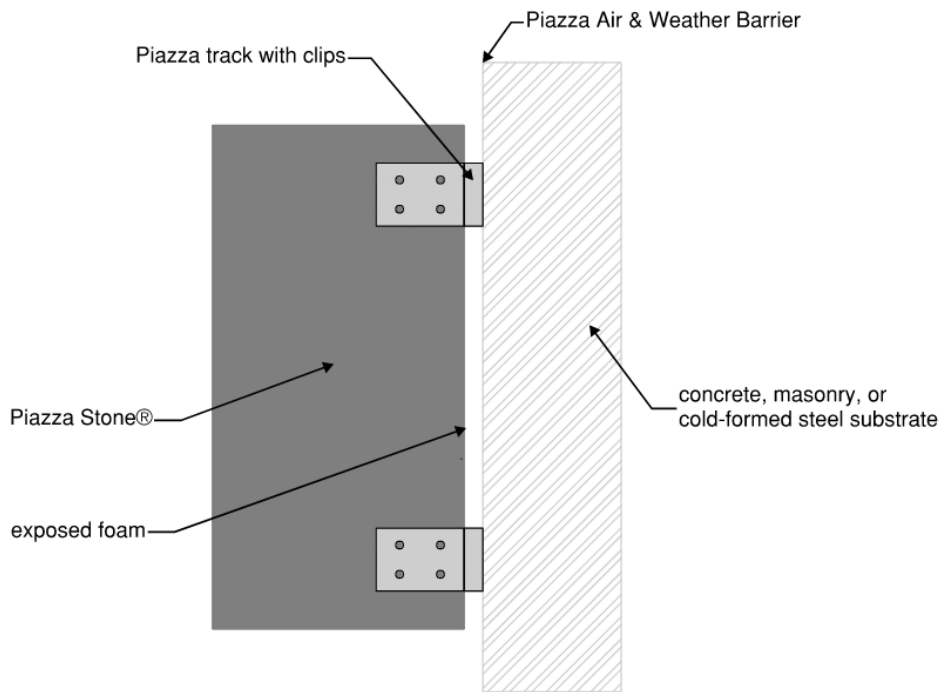

FIGURE 4. EXAMPLE OF MECHANICAL ATTACHMENT OF PIAZZA STONE® TO SUBSTRATE
- 4.7 A standard mechanical installation example without rigid insulation is shown in Figure 4.